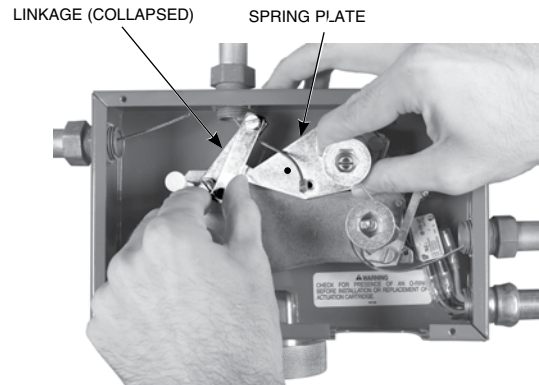

FIGURE 21
- To install new spring plate (Part No. 443216), confirm linkage is still collapsed then insert spring plate on mounting stud. See Figure 21.